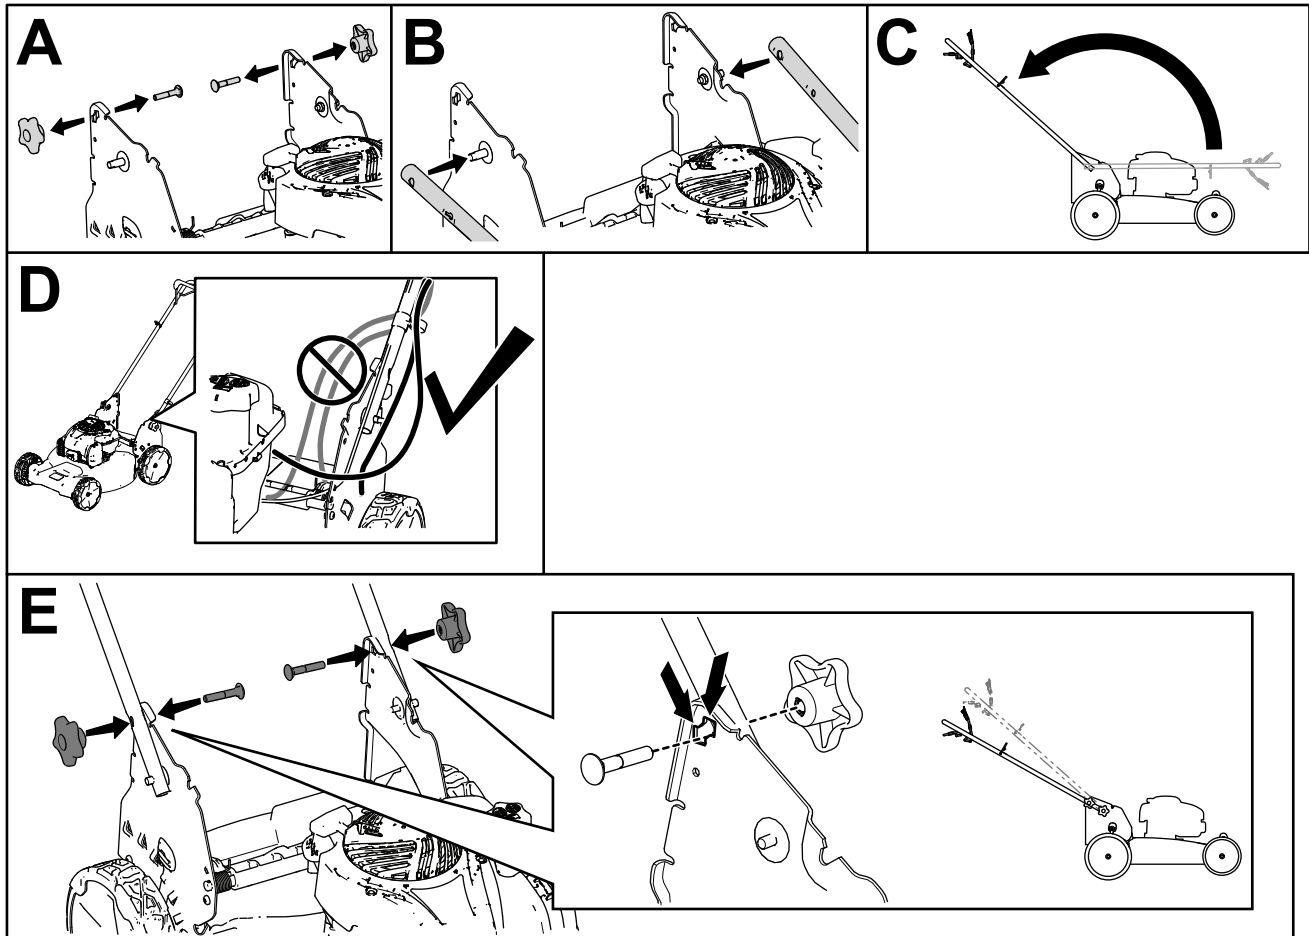

Figure 3
**Note:** The knob and carriage bolt have 2 installation locations. Installing the knob and carriage bolt incorrectly may cause instability in the handle (E of Figure 3).